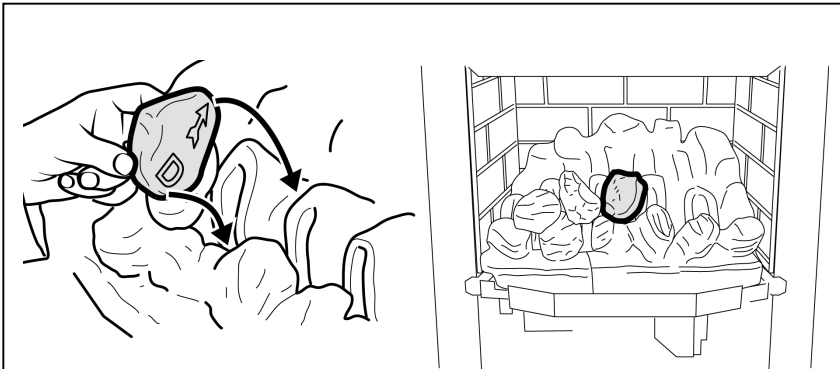

Figure 40. Second row "Coal D"
**11.** Hold coal 'D' upright with the arrow pointing to the top. Locate coal 'D' as shown in figure 40.